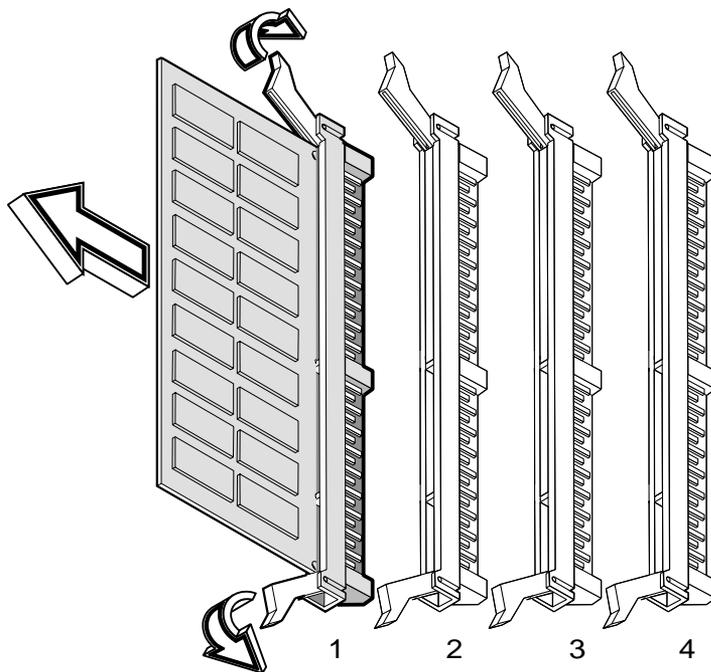

Figure 2-52 Removing a DIMM
2. Press the retaining clips on both sides of the socket outward to release the DIMM, as shown in Figure 2-52.